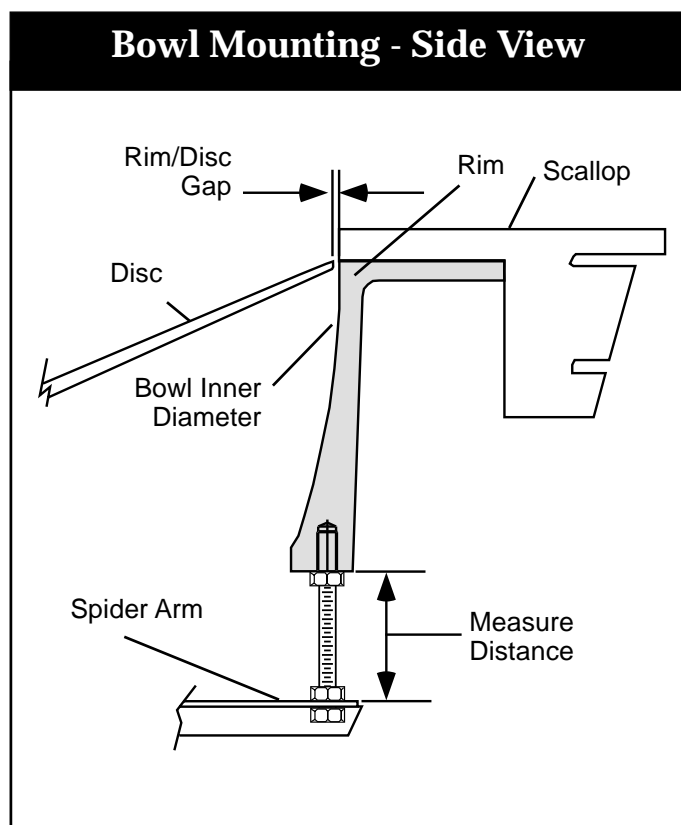

Figure 5-1. Side View - Bowl Mounting
Step 1—Measuring and Removing the Bowl. Measure the height between the bottom of the bowl, and the top of the spider arm (where the threaded rod connects the two parts - see Figure 5-1). Loosen and remove the bottom nut on the spider arm (on each of the eight (8) arms) and remove the bowl - pulling it up and away from the feeder.
Step 3—Adjust Vertical Runout. Attach a dial indicator to the inside of any upper frame support. Set the indicator contact point vertical, perpendicular to the rim of the bowl, up to $\frac{1}{4}$ " (6 mm) from the bowl's upper inside diameter (ID). Loosen jam nuts and locknuts above and below each arm of the bowl spider one arm at a time (see Figure 5-1). Repeat as often as necessary while checking runout. Do not tighten jam nuts until Step 4.